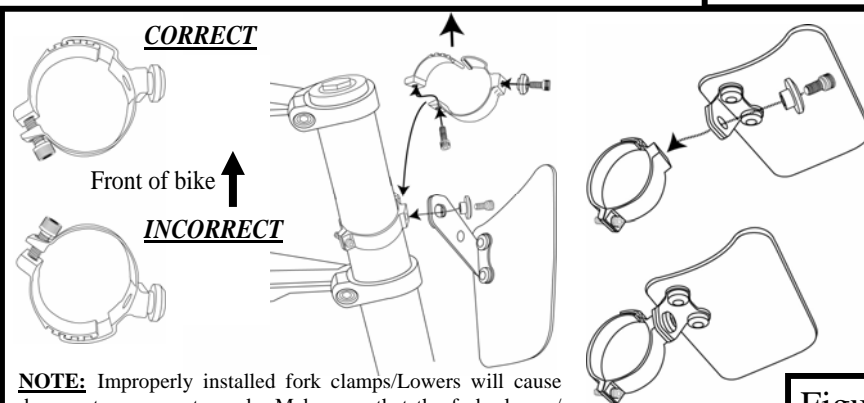

Figure 2
**3. Loosely install the fork clamps on each fork. "Additional screws have been provided for some fitments. Use the longer screws if the screw seems too short. Be sure the longer screw will not hit your fender, see Figure 5 and 6." Remove the anchor bolts from the fork clamps and attach the lowers to the fork clamps. (see figure 2)**